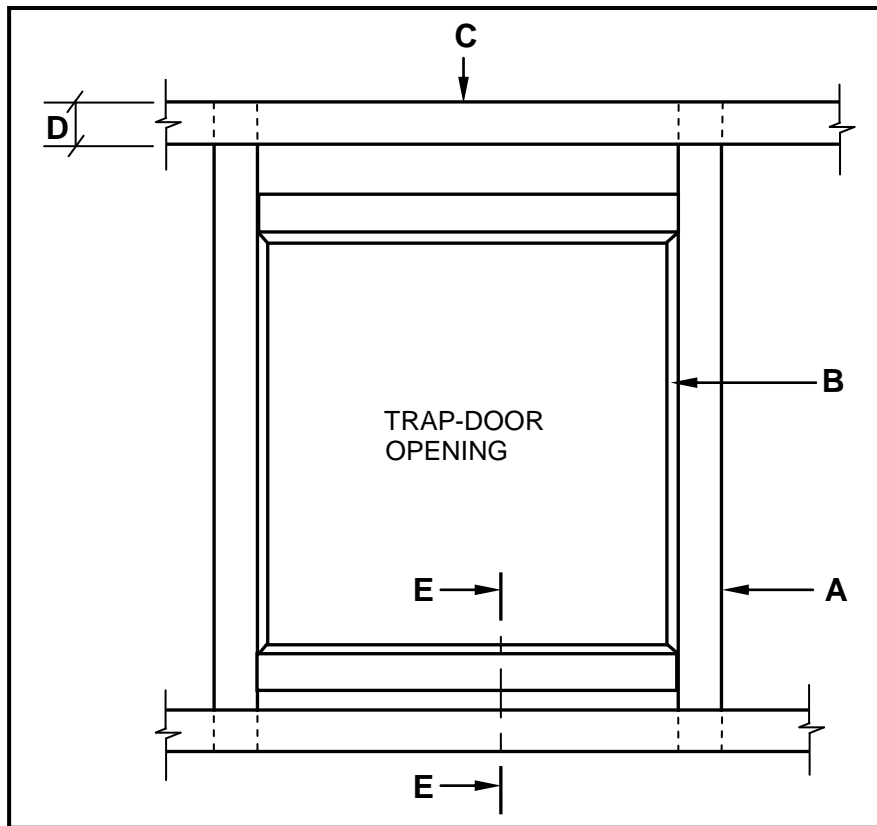

FIGURE 4.5
4.5 FIGURE 4.5 below shows the top view of a trap-door opening, without a door, as seen from the inside of the roof space.